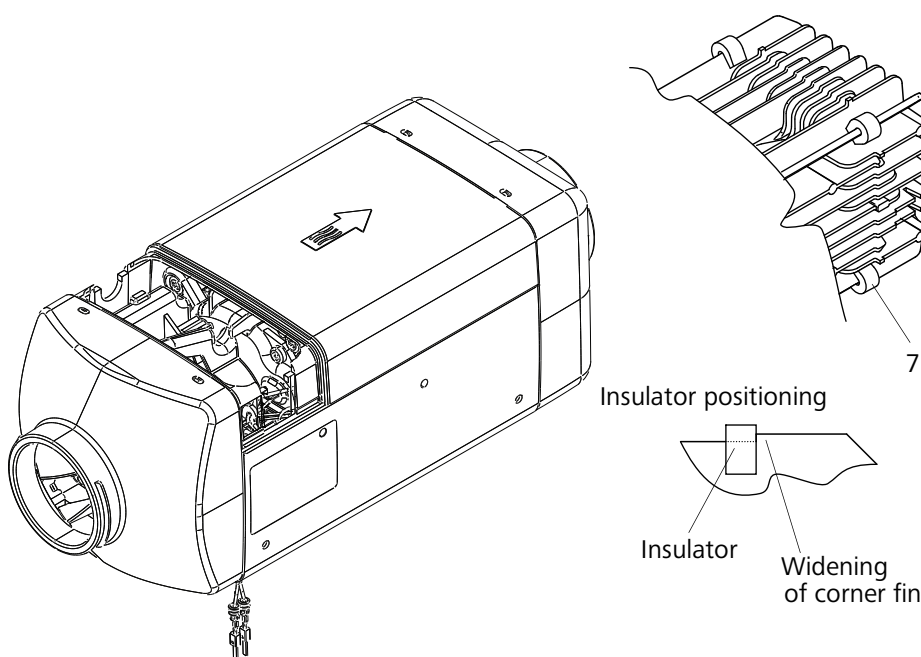

Fig. 902 Removing / fitting casing parts
The cover (1, Fig. 902) can be carefully levered off using a blunt blade in the areas marked (X).
Both covers (3 and 6, Fig. 902) can be released from their mounting and removed by pressing the 4 retaining lugs at the top and bottom using a suitable tool.
The casing (2, Fig. 902) can be removed by pulling upwards.
The retainer is released by gently pulling the lower casing (4, Fig. 902) on both sides in areas (Y) and the casing can then be detached from the motor.
- Slide the four insulators (7, Fig. 902) onto the four corner fins of the heat exchanger and position them exactly next to the wide area of the fins.
- Make sure that all four insulators (7, Fig. 902) are firmly seated.
When fitting the lower casing (4, Fig. 902), spread it slightly so that the spacers on the overheating temperature sensor (8, Fig. 903) are not damaged.
1. Gently spread the lower casing (4, Fig. 902) and fit it onto the heater from below so that the lock pins in the heater engage in the holes in the casing.
1. Place the upper casing (2, Fig. 902) on the heater and secure it in the grooves in the lower casing.
1. Push on covers (3 and 6, Fig. 902) until the 4 securing holes engage properly over the retaining lugs on the lower and upper casing.
1. Fit the grilles (5, Fig. 902) onto the covers for heating air inlet and outlet and lock by twisting.
1. Slide on cover (1, Fig. 902) until it audibly snaps into the upper casing.